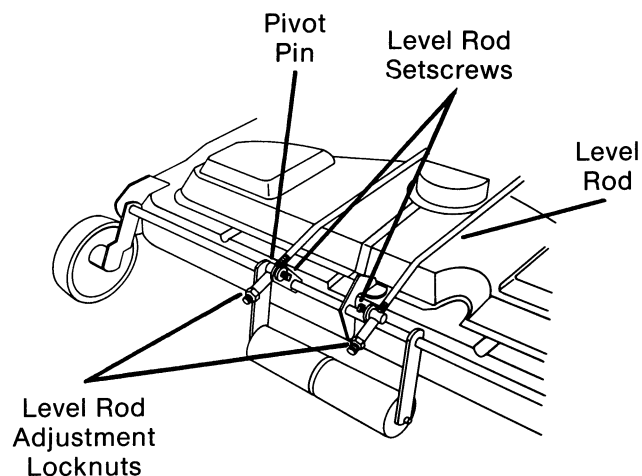

FIG. 26
- d. Loosen (do not remove) level rod set-screw in both pivot pins. (Fig. 26)
- e. Turn lock nuts on rear of level rods clockwise to raise front of the deck or counterclockwise to lower front of the deck. (Fig. 26)
- h. **IMPORTANT:** After correct mower pitch and mower level is achieved, tighten set-screws in pivot pins securely. (Fig. 26) If setscrews are not tightened securely, drive belt may slip off electric P.T.O. clutch when deck is raised for transport.